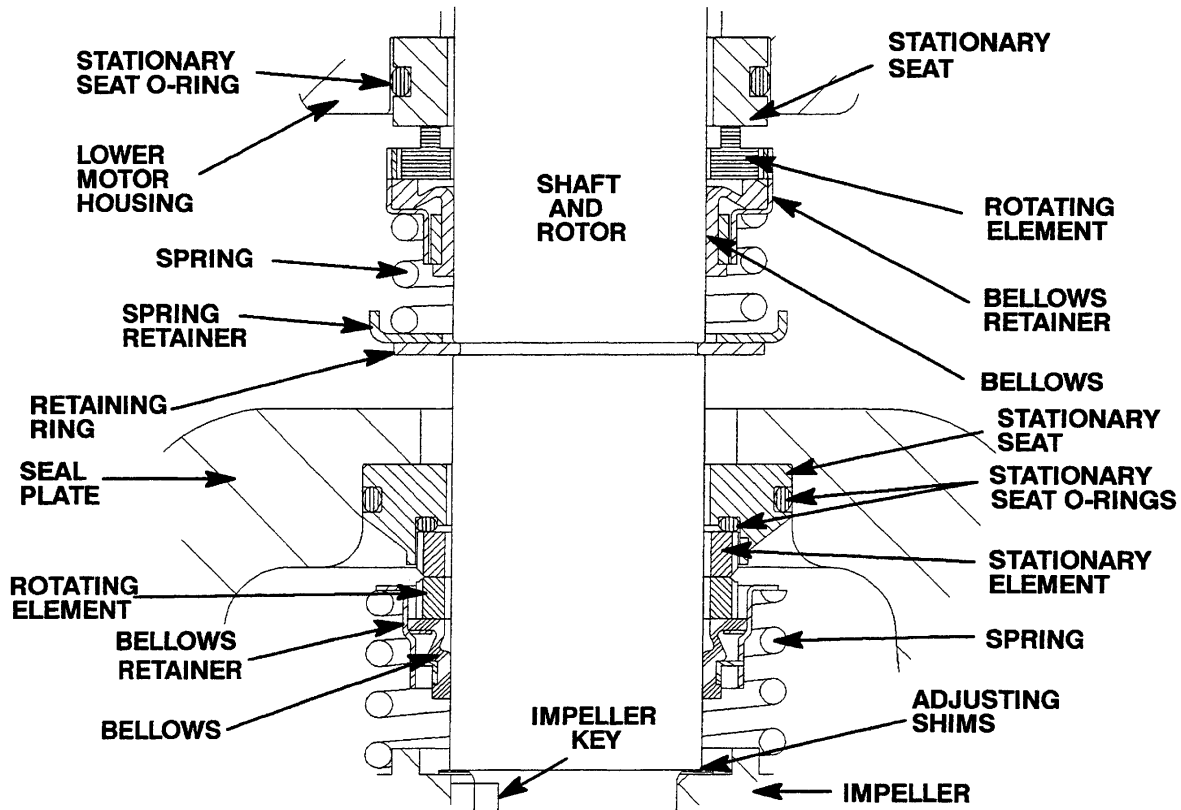

Figure C-3. Upper And Lower Seal Assemblies
Install the shaft seals as illustrated in Figure C-3.
Slide the seal spring over the shaft and bellows retainer, and install the spring holder (18). Install the seal retaining ring (17). See Figure C-3 for proper order of seal assembly.
Slide the seal spring over the shaft and bellows retainer. See Figure C-3 for proper order of seal assembly.